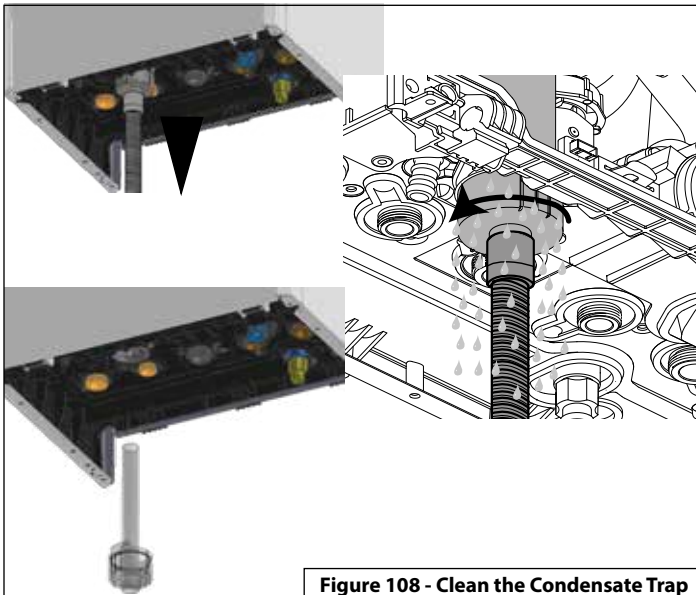

Figure 108 - Clean the Condensate Trap
- NOTE:** Ensure all parts shown in Figure 108 are installed with the boiler. If any parts are missing DO NOT operate the boiler. Replace